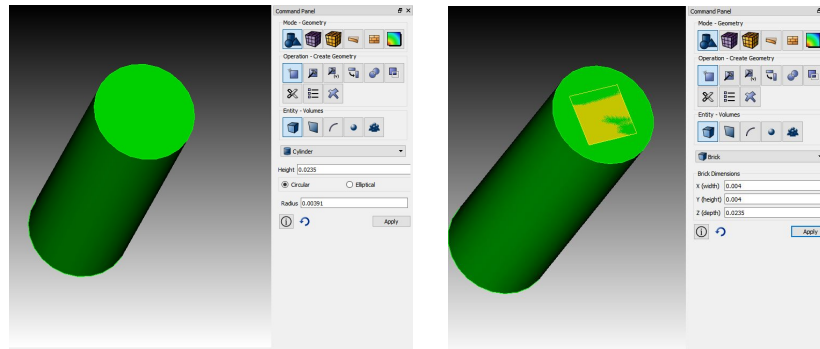

Figure 13: Creating the Brick
- (1) Create cylinder radius 0.00391 height 0.0235 (Figure.13)
- (2) Create brick 0.004, 0.004, 0.0235 (Figure.13)